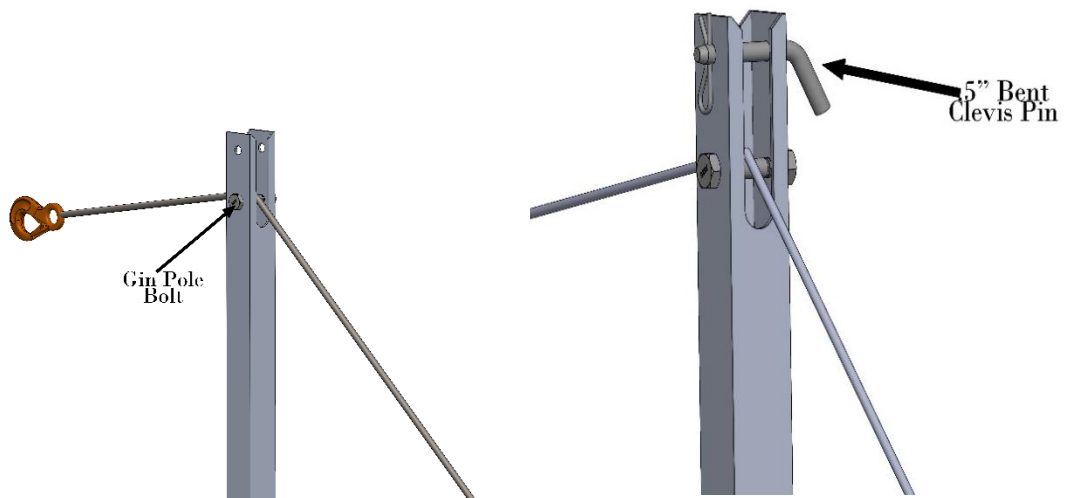

Figure 55 Gin pole bolt and clevis pin
3. On the gin pole remove the cotter pin and the gin pole clevis pin and feed the lift line from the winch to the top of the gin pole bolt then replace the gin pole clevis pin and re-insert the cotter pin onto the gin pole clevis pin as per Figure 55.